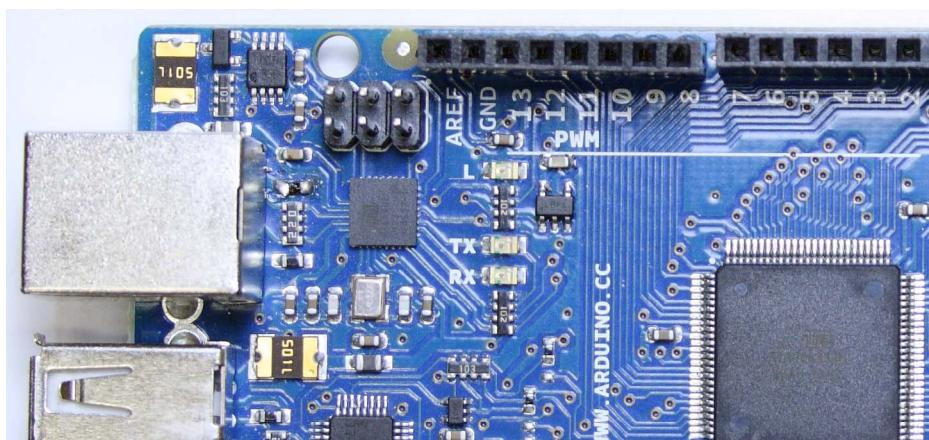

FIGURE 4-15: The sketch is uploading if the LEDs called RX and TX are flashing.
- 6.** To load the sketch onto your Arduino board open the File menu and select Upload. If you've done everything correctly so far, you should see the two small LEDs (named RX and TX) flash; this means that the sketch is uploading properly and will start running shortly. Figure 4-15 shows the RX and TX LEDs on the Arduino MEGA ADK board.